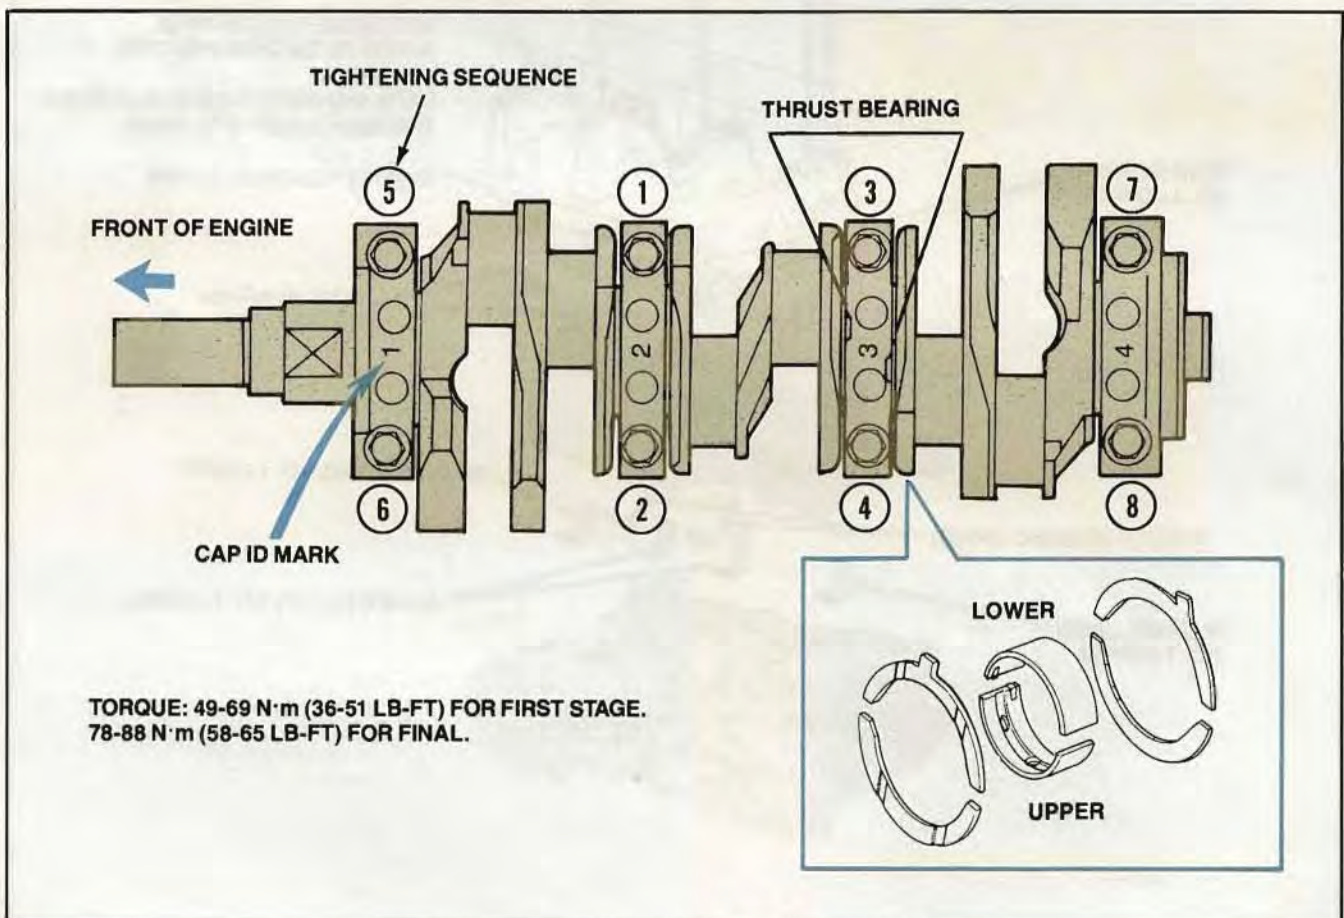

Figure 97. Bearing and Main Cap Installation
6. Apply a coat of oil to the bearing cap bolts and tighten them in the proper sequence (Fig. 97) in two steps. Tighten bearing caps in the following manner: